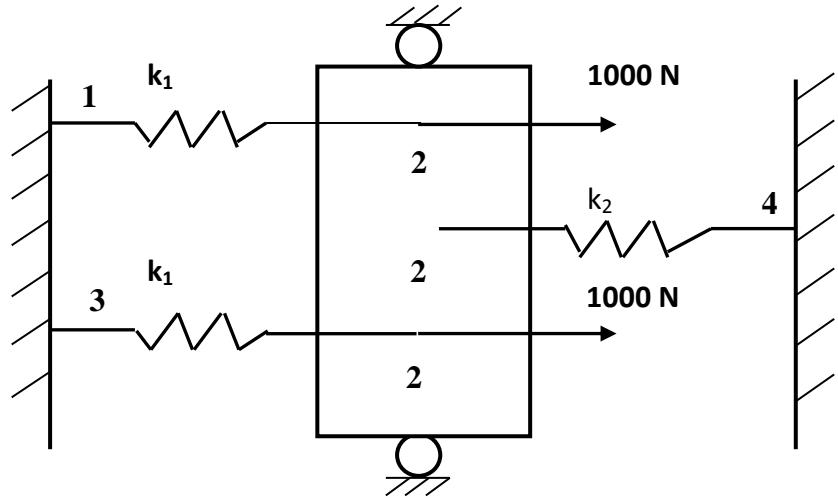

Fig. Q. 4b
4. a) Obtain the expression for element stiffness matrix of 8-node hexahedral element by using **Isoparametric formulation method**. (06)
b) For the structure shown in **Fig. Q. 4b** obtain the unknown displacement if, $k_1 = 500 \text{ kN/m}$ and $k_2 = 1000 \text{ kN/m}$. (04)